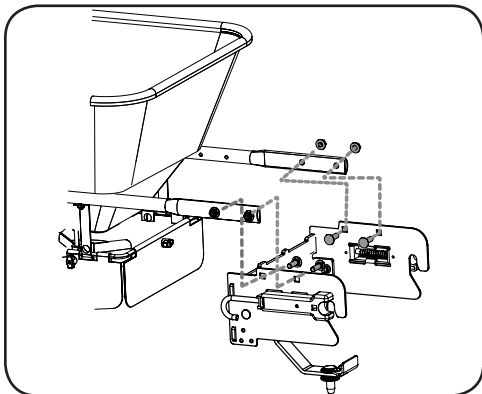

Figure 2-10
- Use two 3/8-16 x 1.25 carriage bolts and two 3/8-16 locknuts from hardware pack 689-00510 per side to attach the indented ends of the single frame tubes, to the top of the Fast Attach Hitch Bracket. See Figure 2-10.